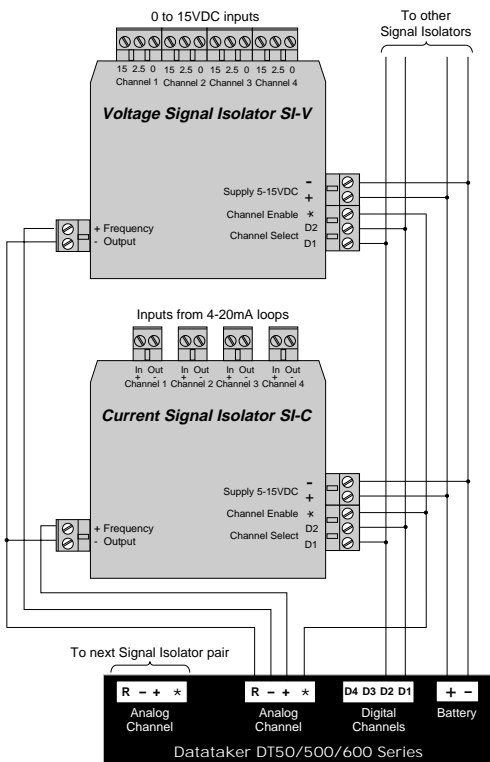

Fig. 1: Typical Single-Ended Connection
Up to two isolators can be connected to a Datataker analog channel (using single-ended connections to the Datataker's +, - and R terminals; see Figure 1).
- Excite output one per isolator, or one per isolator pair if connected as in Figure 1 (to control isolator Channel Enable)